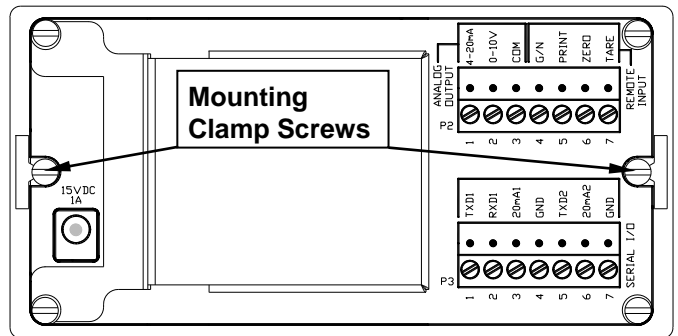

Figure No. 2
3. Remove the 2 screws securing the mounting clamps to the enclosure. See Figure No. 2.